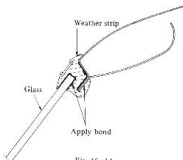

Fig. 15-14
5. Apply a bond all round of the glass edge and weather strip as shown in the Fig. 15-14. The same procedures are applicable to the installation work of the rear window glass.